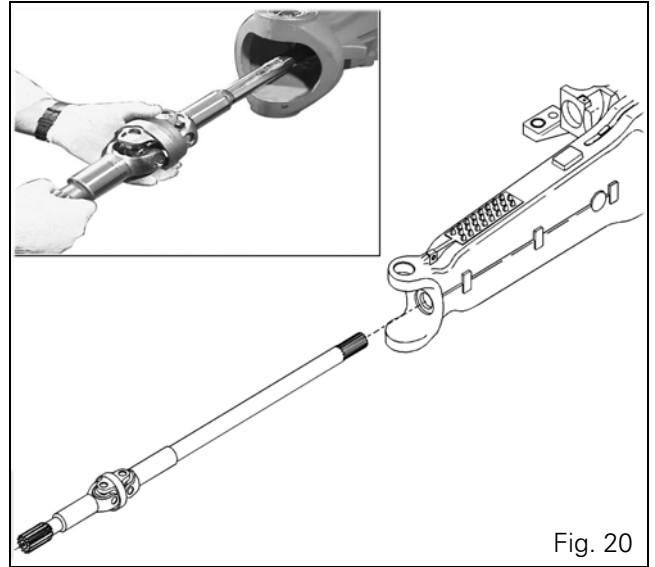

Fig. 20
19. Split the universal joint from the axle beam (Fig. 20).